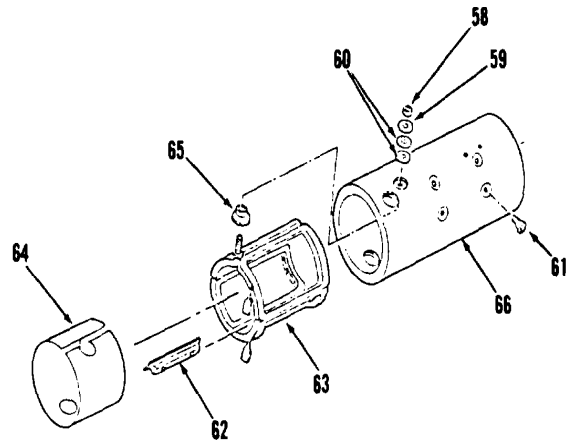
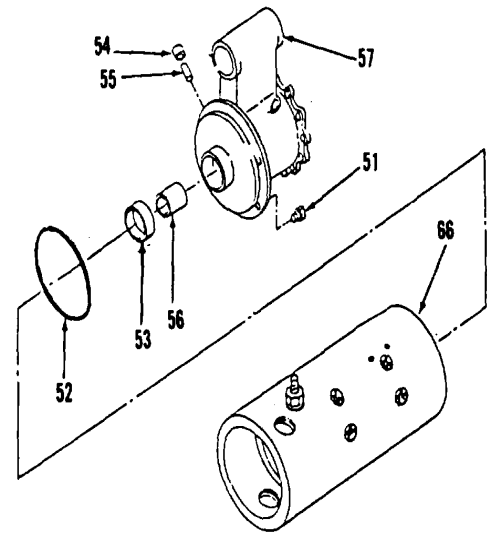

Figure 4-47.
Figure 4-46.
1. Position insulation bushing (65) and insulation (64) inside housing (66, Figure 4-47).
2. Install field coil (63) and position four pole shoes (62) inside housing (66).
3. Coat threads of eight pole shoe screws (61) with thread sealant and install.
4. Install two washers (60). washer (59) and nut (58).
5. Using suitable driver and press, install new bushing (56), if removed, in housing (57, Figure 4-46).
6. Saturate wick (55) with clean engine oil. Install wick (55) and new cup (54).
- 1 7. Install new seal (53).
8. Coat new preformed packing (52) with general purpose grease and install on housing (57).
9. Install housing (57) on housing (66).
10. Install five bolts (51).